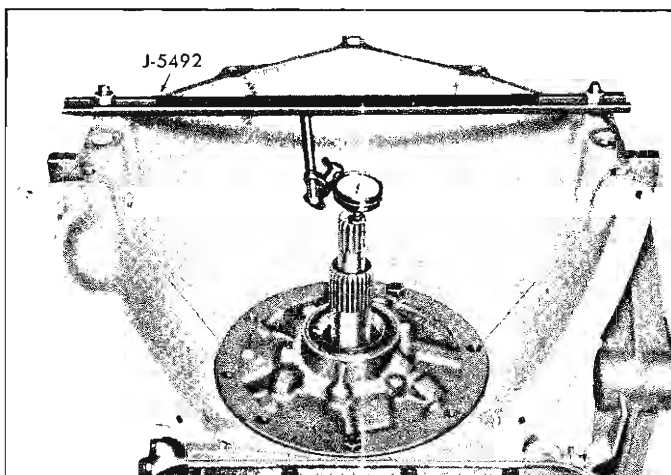

Fig. 38—Checking End Play for Proper Thrust Washer Selection
- a. Mount a dial indicator so that plunger of indicator is resting on end of the input shaft. J-5492 may be used to support the dial indicator as shown in Figure 38. Zero the indicator.